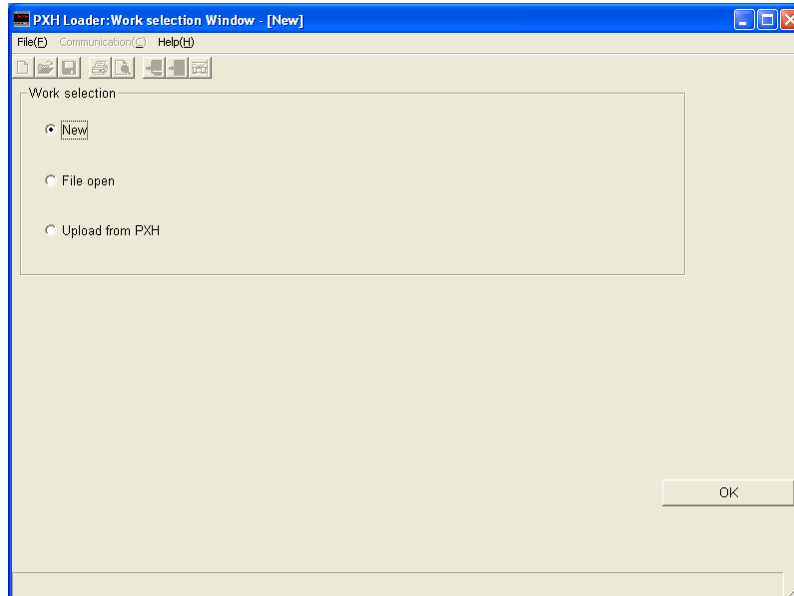

Fig. 6-1 Work selection Window
Activating [PXH Loader] out of start menus displays the Work selection Window (Fig. 6-1).
- (1) On the Work selection Window (Fig. 6-1), select [Upload from PXH], and click on [OK] button. Making sure of contents on the Communication condition setting Dialog, click on [Execution] button. After parameter settings are uploaded, the Menu Window appears.
Set a parameter by [New] in the Work selection Window (Fig. 6-1).